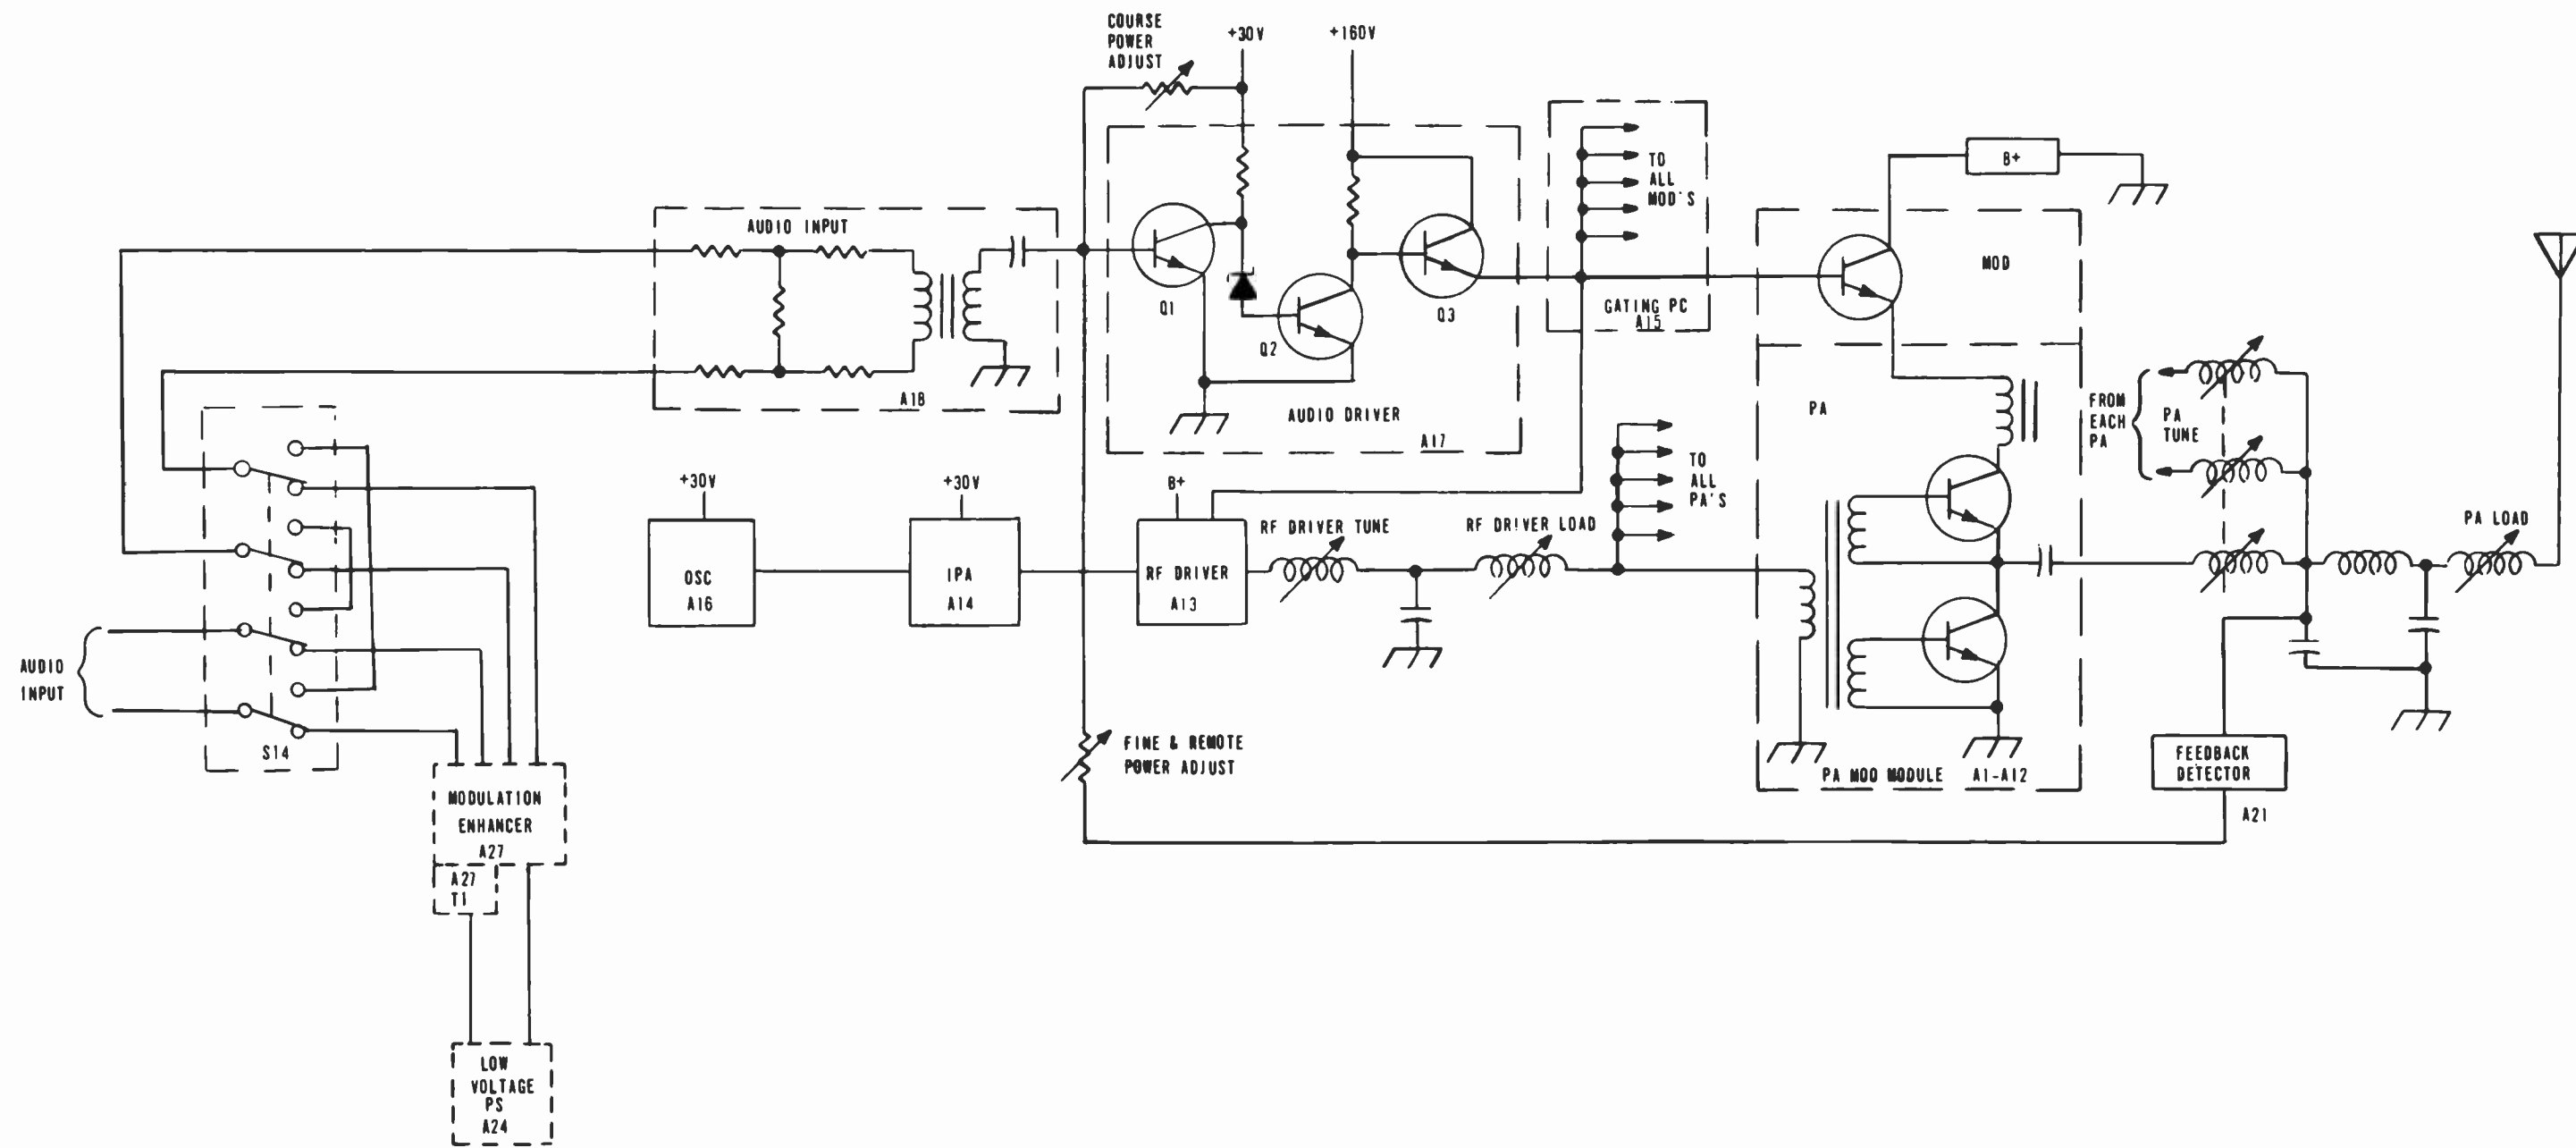

FIGURE 4-1. RF SUBSYSTEM,
4-4. The MW-1A is a completely solid state AM Broadcast Transmitter that utilizes redundant circuitry of modular construction. The MW-1A consists of four basic subsystems; RF, Audio, Control, and Equipment/Personnel Protection. The following discussion references the block diagrams, figures 4-1 and 4-2.
4-6. The RF Subsystem, figure 4-1, includes the Oscillator module, IPA (Intermediate Power Amplifier) module, RF Driver module, and the Power Amplifier which consists of twelve identical modules in a parallel configuration. The oscillator generates a stable RF signal from which the carrier frequency is derived. The purpose of the IPA is to isolate the oscillator for improved frequency stability and, in conjunction with the RF Driver, to amplify the RF signal in order to drive the Power Amplifier efficiently. The Power Amplifier (PA) increases the power of the RF signal to the rated output level to be radiated by antenna.